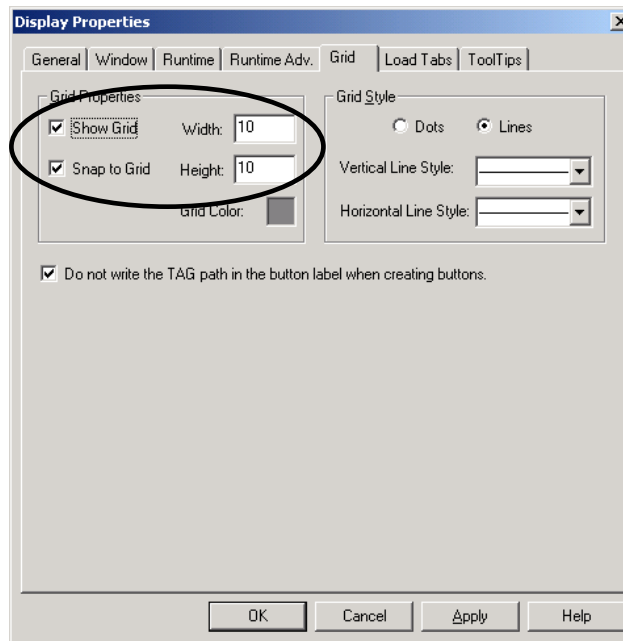

Figure 5.8
- Now on the **Grid** tab, select **Show Grid** and set both the **Width** and **Height** to **10**. Again, make sure that everything else is the same as shown in **Figure 5.8**.